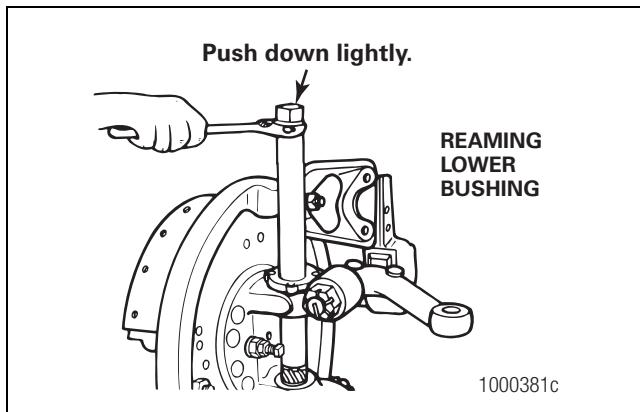
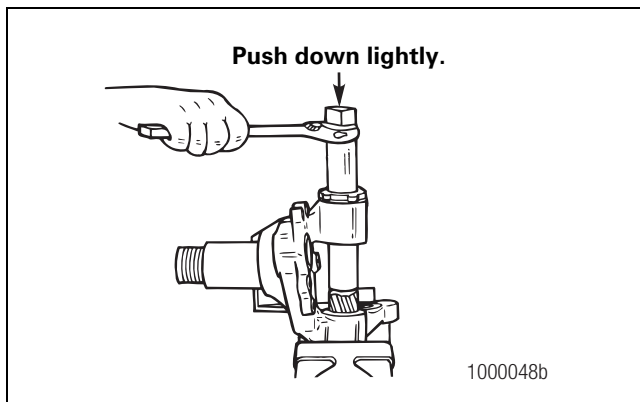

Figure 6.6
Figure 6.7
4. After cutting the top bushing, guide the reamer into the bottom bushing. Do not allow the tool to drop to the bottom bushing. Repeat Steps 2-3. Figure 6.6 and Figure 6.7.